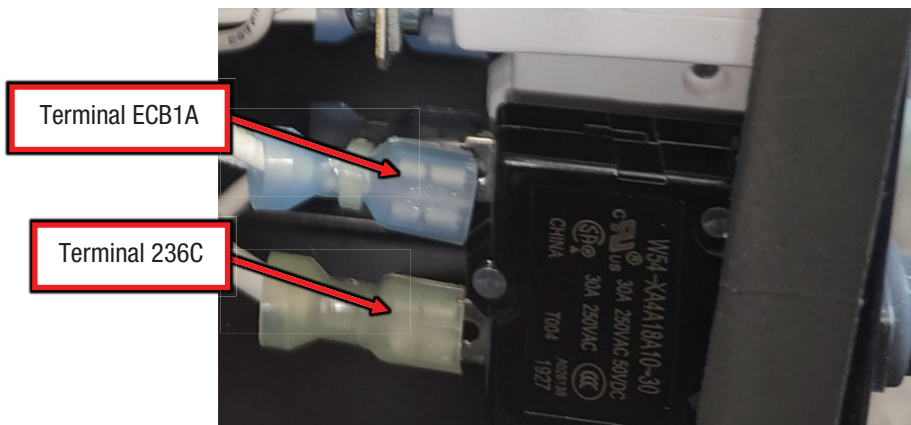

Figure F.3
- A.3. Perform the static measurements in Test Table 1, refer to Figure F.3 for test point locations. NOTE: MEASUREMENTS ARE MADE ON CB8 WITH THE LEADS REMOVED.